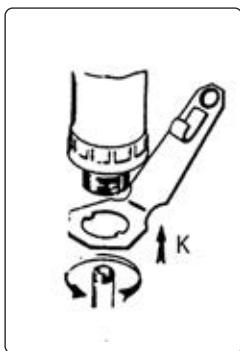

fig.4
4.2. OPERATIONS FOR USE WITH THE TP90/HK OPTIONAL HOSE KIT (Figs 4 & 5):
- 4.2.11.2. Fix the hose bracket (Fig.4.K) over the slots on the pump body.